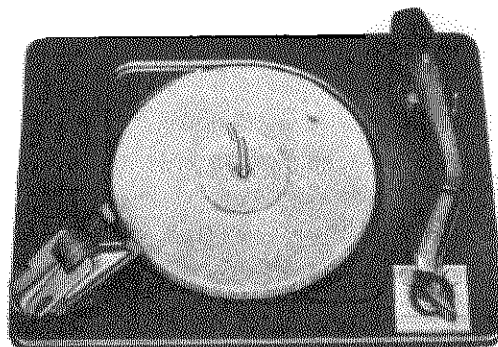

Figure 2—CHANGER, RECORD SHELF IN 10" POSITION:
2. Place the tone arm on its rest post, turn the record shelf fully counterclockwise to the 10" position and lift the record hold-down over and toward the corner of the changer, as shown in figure 2.